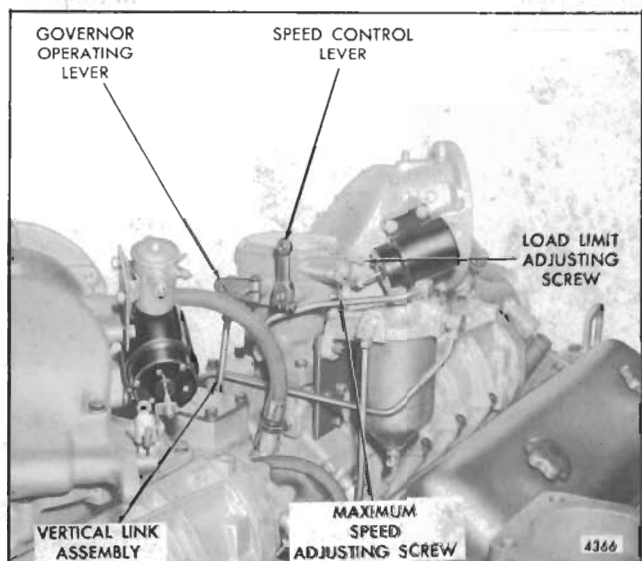
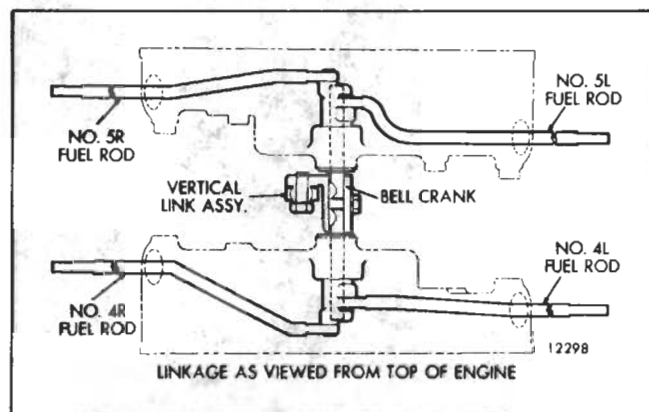

Fig. 1 - Hydraulic Governor Mounting
Fig. 2 - Governor to Injector Rack Control Linkage
The governor on the 16V engine is mounted on and driven from the front end of the rear blower (Fig. 1). The governor-to-injector control tube linkage is shown in Fig. 2.
3. Disconnect the vertical link assembly from the governor operating lever and the bell crank (Fig. 1).